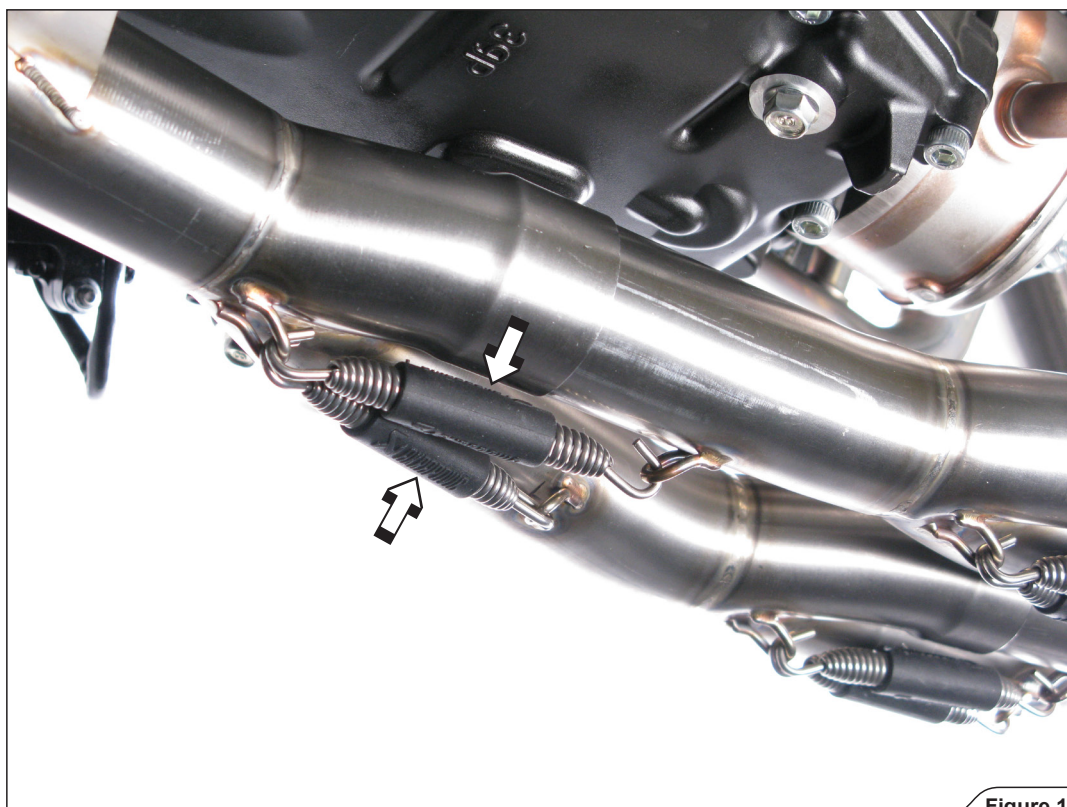

Figure 14
6. **For Akrapovič Racing only:** slide the link pipe onto the collectors and attach the springs (Figure 14).